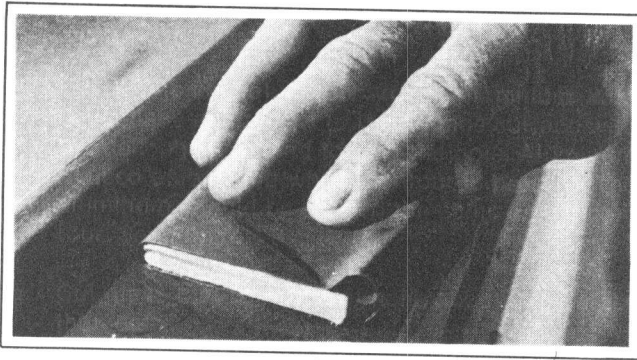

Figure 4-6. Sanding Patch
9. Sand the patched area, using a sanding block with 600 grit wet sandpaper. Finish by buffing with fine rubbing compound such as DuPont #606 and waxing. Weathering will aid to blend touch-up if a slight color difference can be observed. See Figure 4-6.